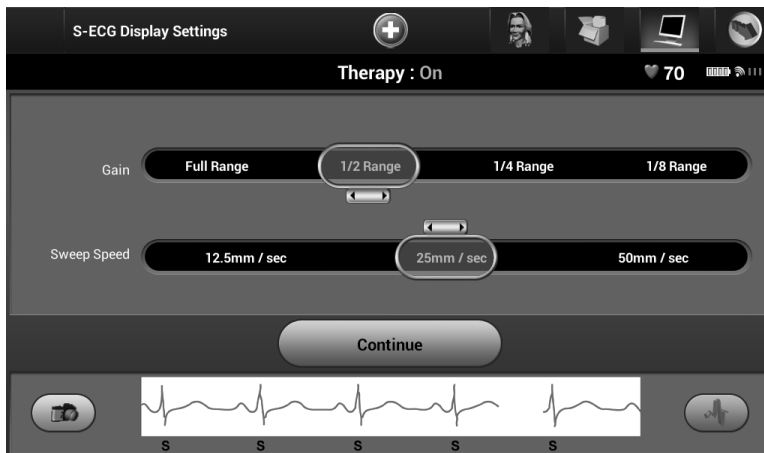

Figure 39: Adjusting Gain and Sweep Speed
2. Select and drag the Gain or Sweep Speed Scale bars as desired (Figure 39). The S-ECG scale will change according to the selected setting. The gain setting controls the visual gain. The programmer defaults to Full Range for SQ-RX devices with a gain setting of x1 and to 1/2 Range for SQ-RX devices with a gain setting of x2. The Sweep Speed slider controls the display speed of the scrolling Live S-ECG. The nominal sweep speed setting is 25 mm/sec.